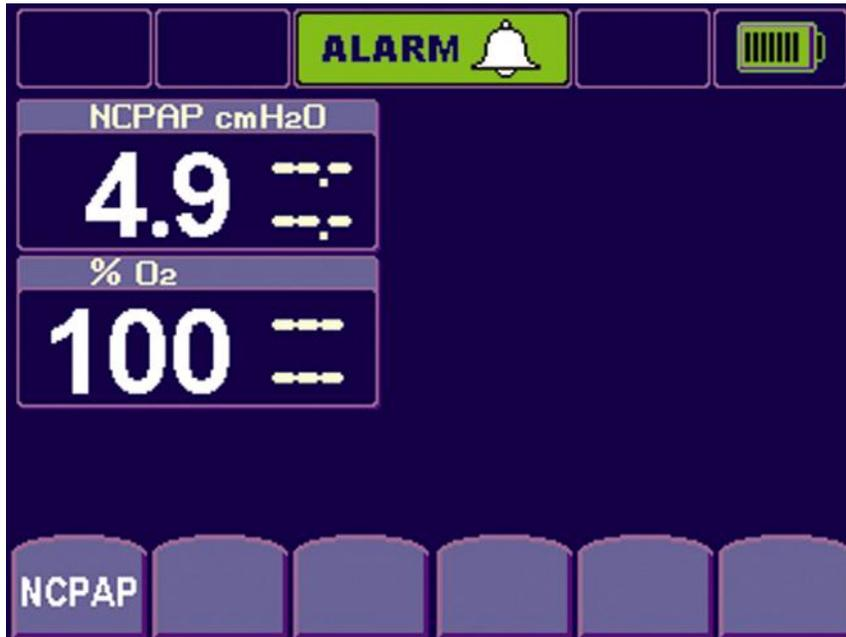

Figure 2
- Accept the NCPAP settings by selecting the NCPAP soft key. (%O2 should display 100) (Figure 2).